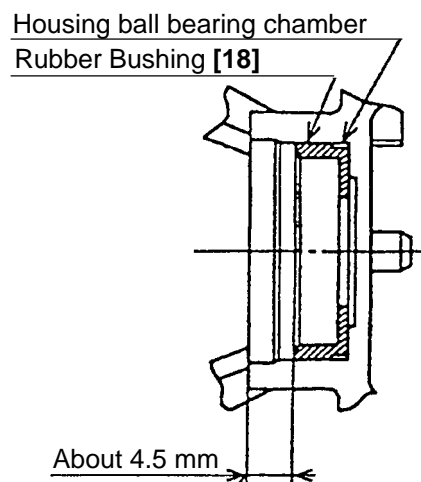

Fig. 9
- (4) Fit the Rubber Bushing [18] into the housing ball bearing chamber before installing the Armature [12] (see Fig. 9).